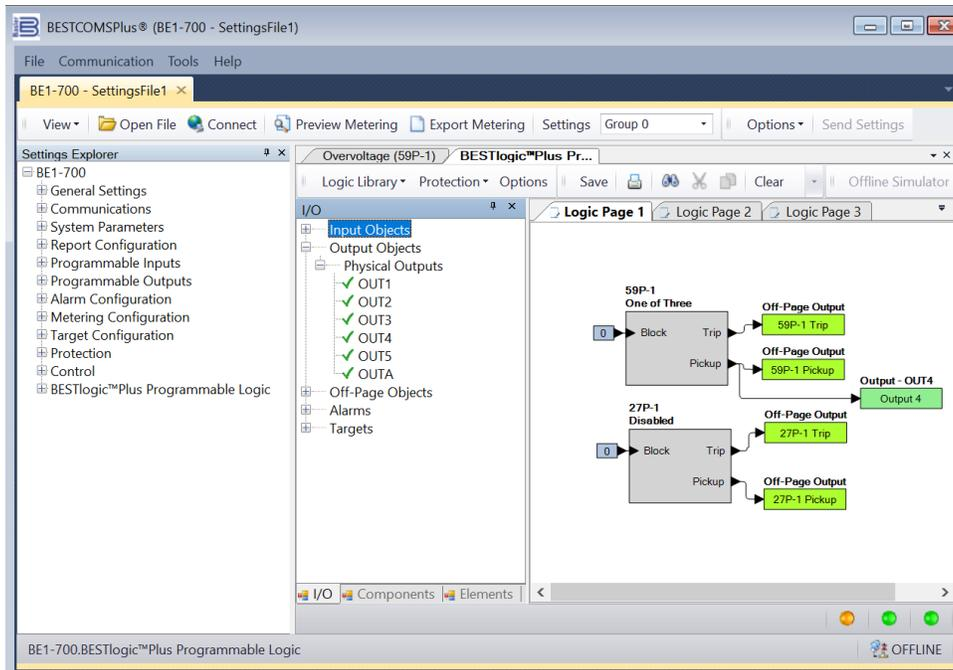

Figure 2-12. BESTlogicPlus Programming OUT4
Step 10: In this example step, the Pickup output of the 59P-1 element is connected to Output 4. When the Pickup output of the 59P-1 element is true, the label of Output 4 is displayed in the fault report and/or sequence of events report. The label is named in Step 12. Click the Logic Page 1 tab and then click the I/O tab at the bottom. Expand Output Objects and then Physical Outputs. Click and drag OUT4 over to the logic diagram. Click on the Pickup output of the 59P-1 element and drag it to the input of OUT4 to make a connection. Refer to Figure 2-12.